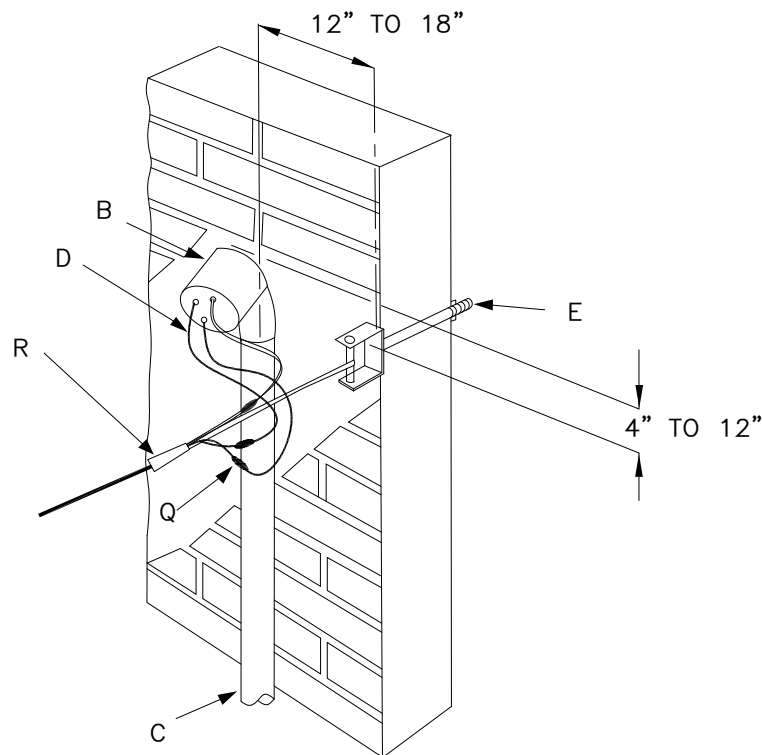
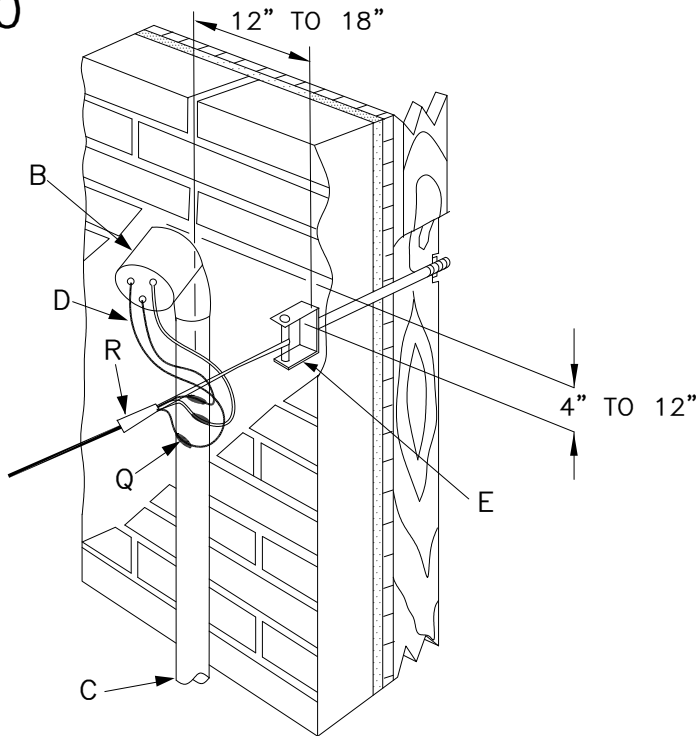
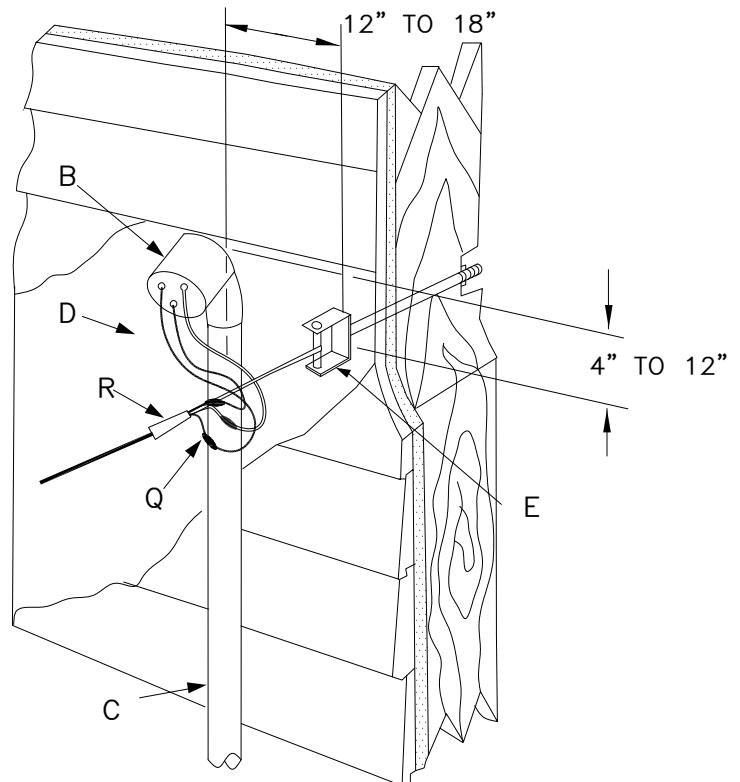
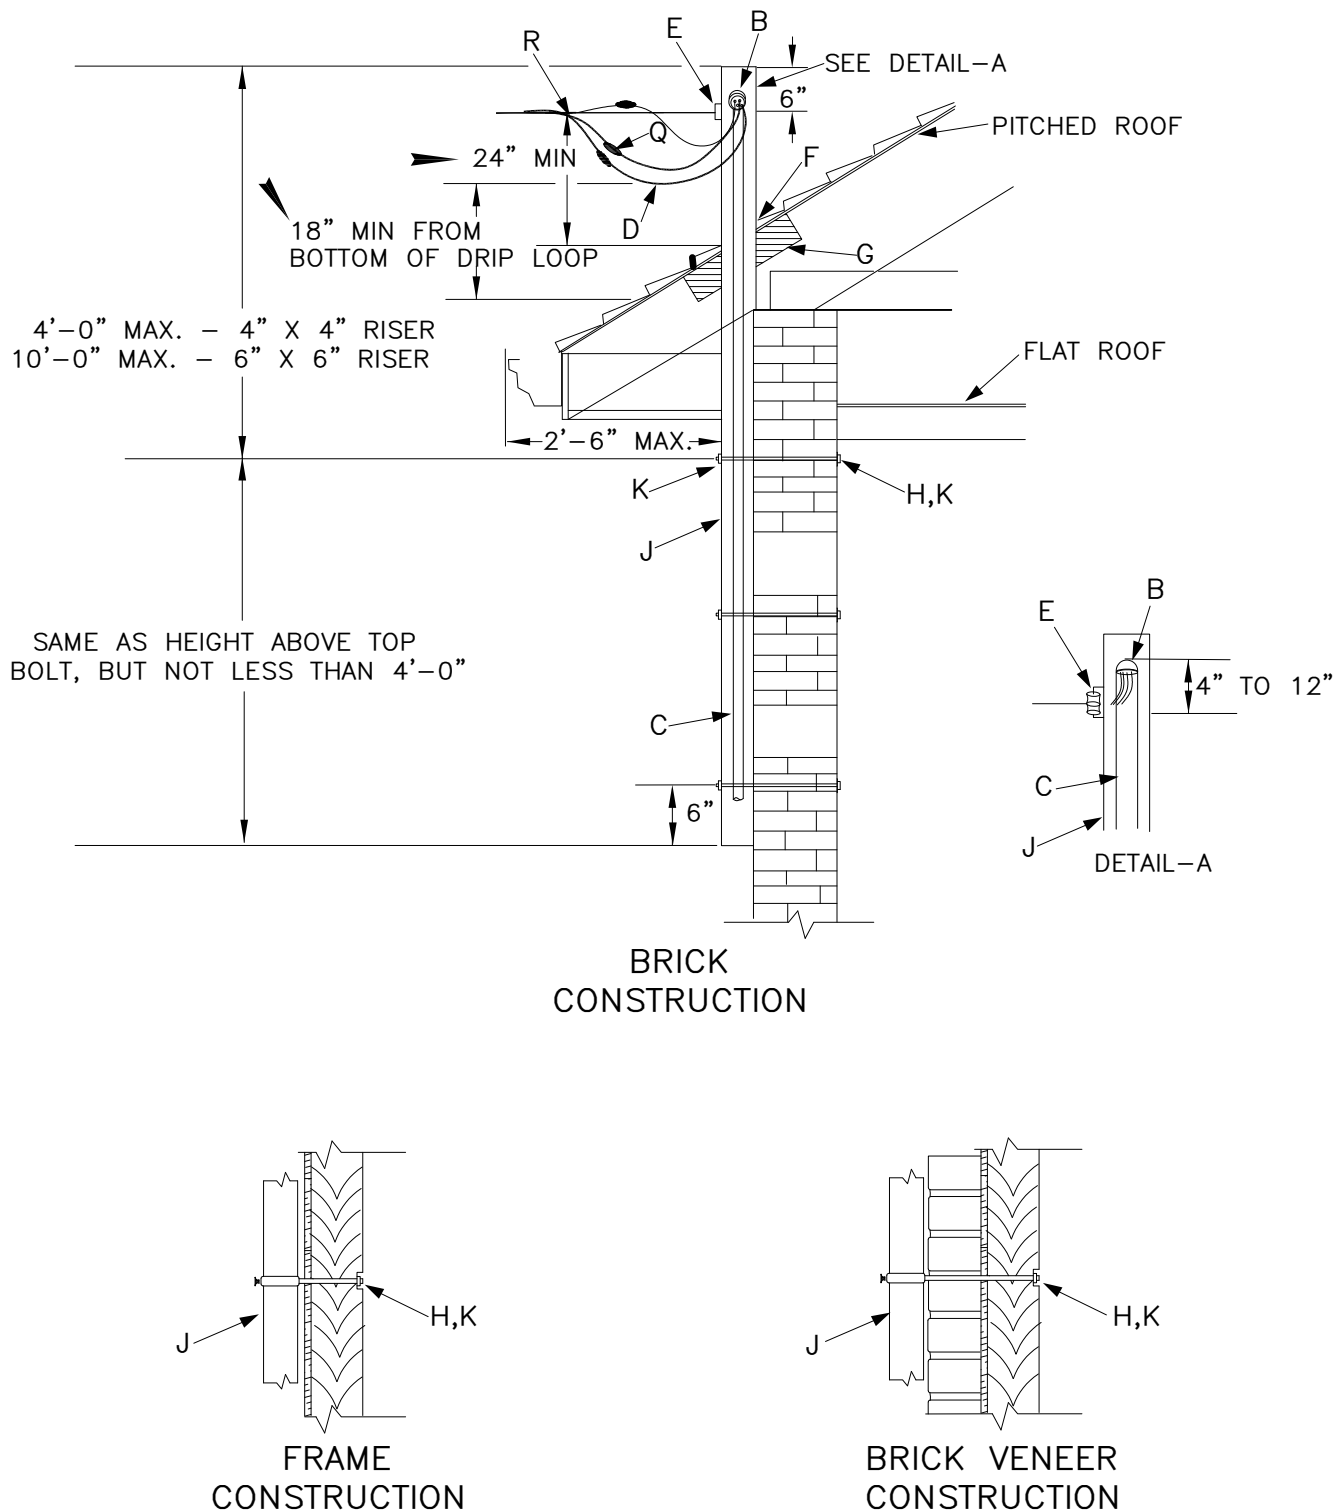

FIGURE-1
FIGURE-2
FIGURE-3
FIGURE-5
- THIS STANDARD DESCRIBES THE REQUIREMENTS FOR THE ATTACHMENT OF SINGLE PHASE SERVICES OF UP TO 400 AMPS TO A: MASONRY WALL (FIGURE-1), BRICK VENEER WALL (FIGURE-2), FRAME OR STUCCO WALL (FIGURE-3), PORCH POST (FIGURE-4), WOOD RISER (FIGURE-5) OR STEEL CONDUIT RISER (FIGURE-6).
- THIS STANDARD DESCRIBES THE REQUIREMENTS FOR THE ATTACHMENT OF THREE PHASE SERVICES OF UP TO 200 AMPS TO A: MASONRY WALL (FIGURE-1), BRICK VENEER WALL (FIGURE-2), FRAME OR STUCCO WALL (FIGURE-3), PORCH POST (FIGURE-4), WOOD RISER (FIGURE-5), OR STEEL CONDUIT RISER (FIGURE-6).